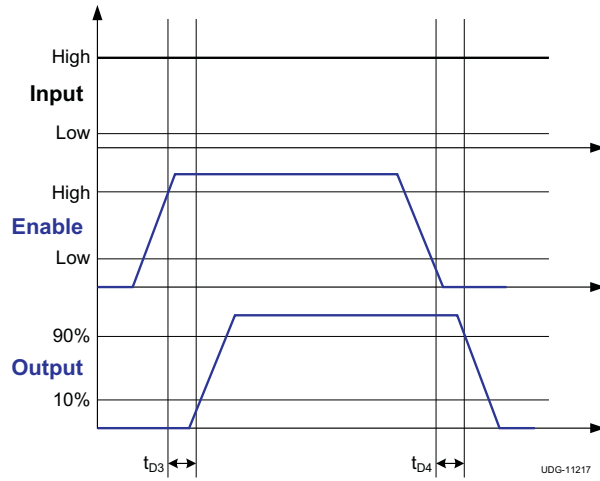

Figure 1. Enable Function
(1) Ensured by design.
(2) R_{OH} represents on-resistance of only the P-Channel MOSFET device in the pullup structure of the UCC27524A-Q1 output stage.
(3) See the timing diagrams in Figure 1, Figure 2 and